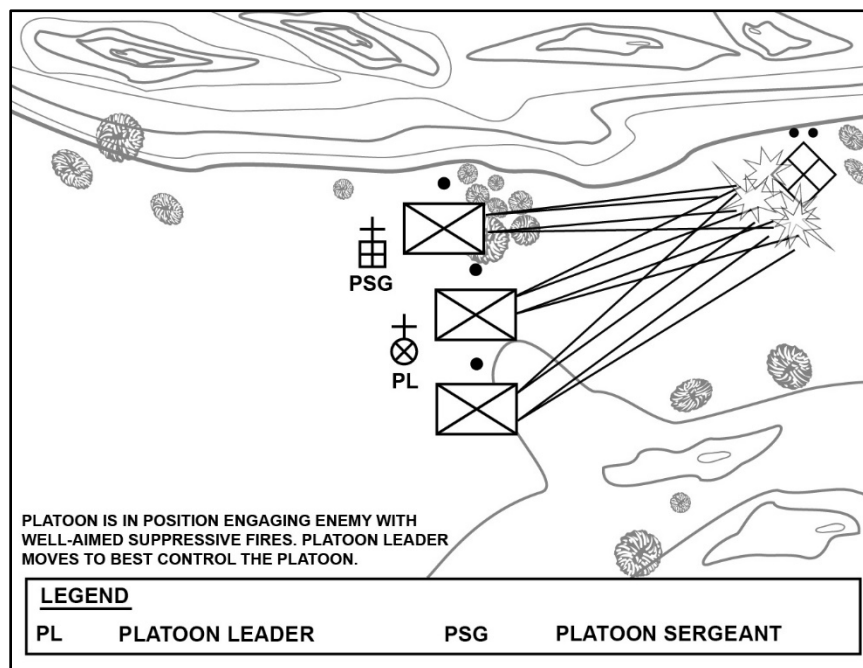

Figure B-2. Well-aimed fires and platoon leader control
*9. The platoon leader moves up to a covered and concealed position where it is best to observe, communicate, and control the engagement. (See figure B-2.)